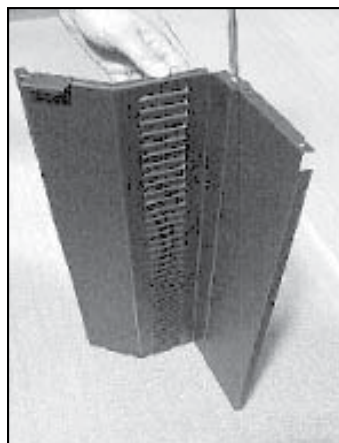

Figure 25.3
4. Stand assembly on end and attach and install (1) 8-32 x 3/8 inch screw through tab in side panel and curtain (**Figure 25.3**).